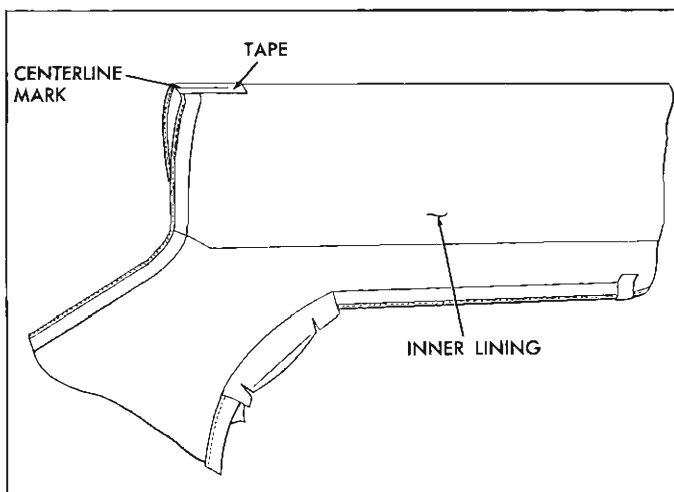

Fig. 70—Marking Folding Top Material
26. Fold new top material in half so that inner lining of top material is exposed (fig. 70). Install a 6" piece of taper on inner surface at centerline fold of new top material (fig. 70). Using a pencil, mark the approximate centerline of new top material along entire length of tape.